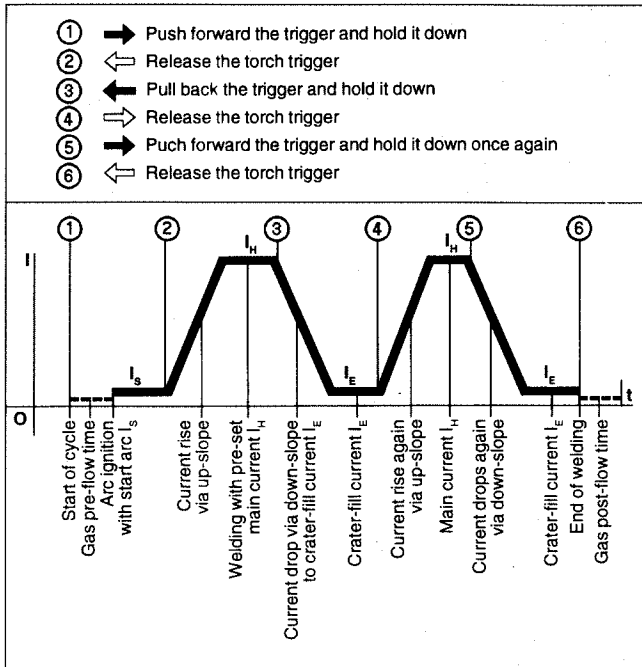

Fig. 6: Functional sequence in 4-step operating mode, with facility for lowering the welding current without any break in welding.
- The functional sequence (described in Fig. 6) is only possible in the 4-step operating mode.